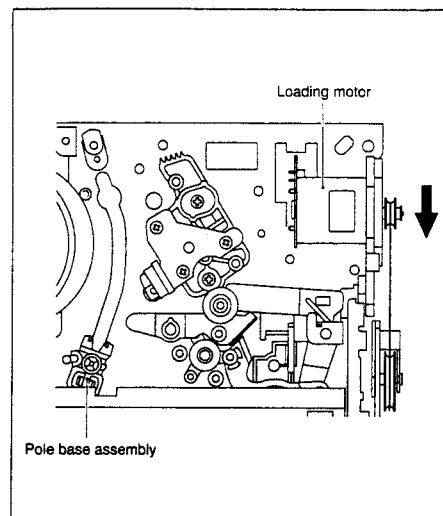
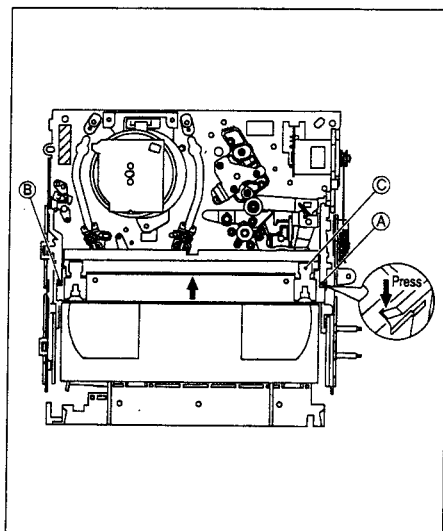

Fig. 2-1-1
Fig. 2-1-2
- (1) Unplug the power cable and remove the top cover, bracket and front panel assembly. (See 1.3 DISASSEMBLY/ASSEMBLY METHOD)
- (2) Unload the cassette by manually turning the unloading motor of the main deck assembly toward the front. In doing so, hold the tape by the hand to keep the slack away from any grease. (See Fig.2-1-1)
- (3) Bring the pole base assembly (on the supply or take-up side) to a pause when it reaches the position where it is hidden behind the cassette tape.
- (4) Move the top plate toward the drum while holding down the lug (A) of the bracket retaining the top plate. Likewise hold part (B) down and remove the top plate. The spring plate (C) is then brought under the cassette lid. Then remove the top plate by pressing the whole cassette tape down. (Note 1) (See Fig.2-1-2).
- (5) Remove the cassette tape by holding both the slackened tape and the cassette lid.
- (6) Take up the slack of the tape into the cassette. This completes removal of the cassette tape.